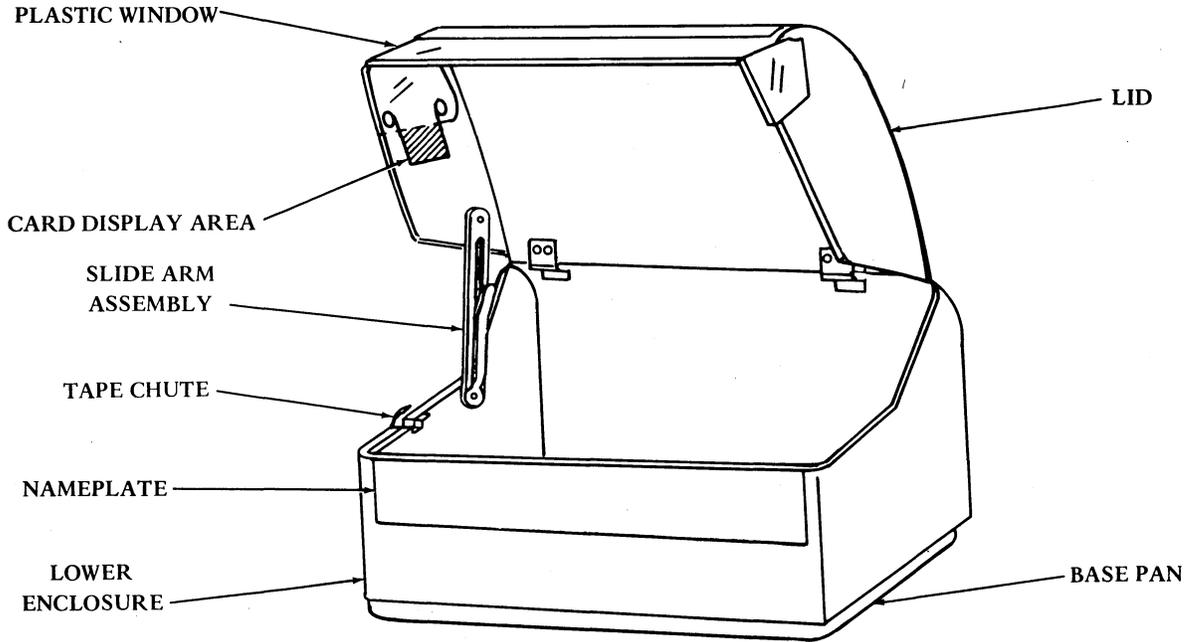

Figure 2 - Reperforator Cover
2.01 The lid (Figure 2), contains a molded plastic window and slide arm assembly which latches the lid in its fully opened position. The plastic window inside surface is opaqued, except for the left front and side corner which is clear. Clear window space, on the left side, is provided to mount a card, displaying frequently used telephone numbers.